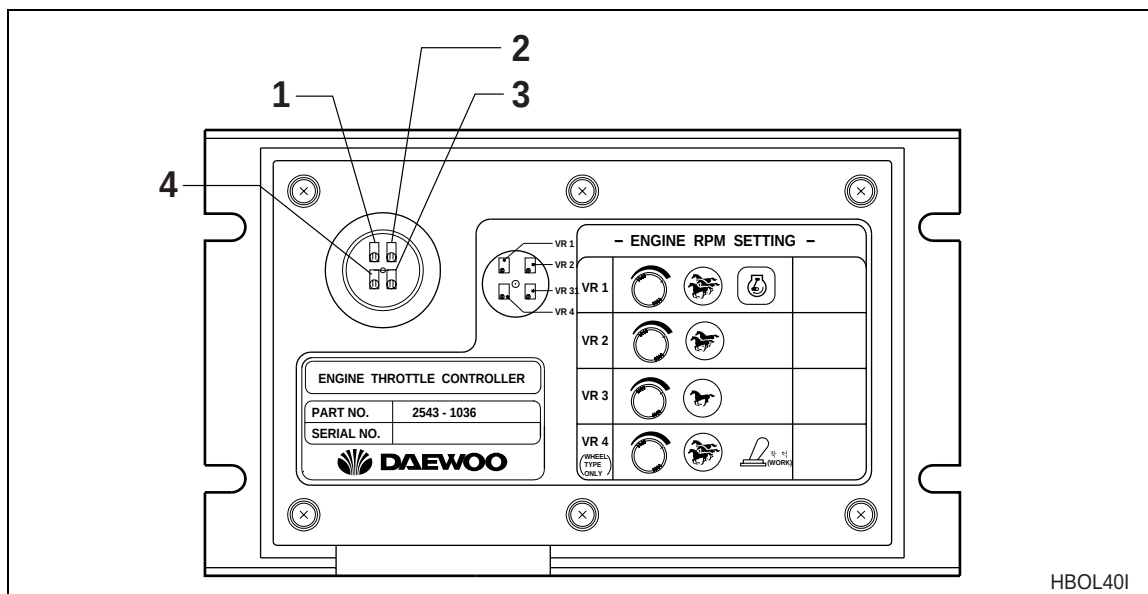
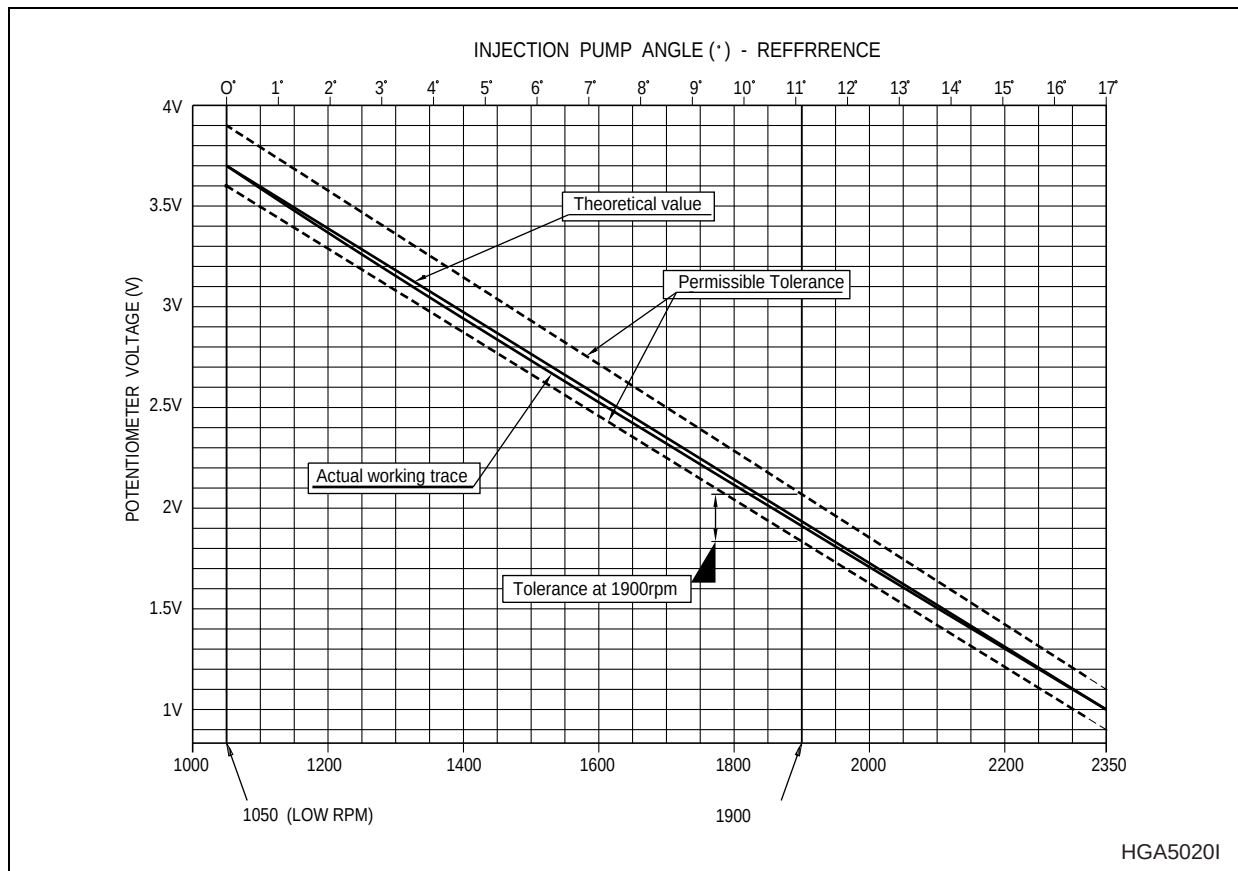

Figure 46
Figure 48
Adjustment of Work Mode RPM (Refer to Figure 46)
- D. With a small screw driver adjust the variable resistor "VR4" shown in Figure 46. Adjust it until the engine is at 1900 ± 50 RPM.
Adjustment of Auto Idle and Other RPM (Refer to Figure 46)
- C. With a small screw driver adjust the variable resistor "VR1" shown in Figure 46. Adjust it until the engine is at 1250 ± 50 RPM.
- C. With a small screw driver adjust the variable resistor "VR2" shown in Figure 46. Adjust it until the engine is at 1750 ± 50 RPM.
- C. With a small screw driver adjust the variable resistor "VR3" shown in Figure 46. Adjust it until the engine is at 1600 ± 50 RPM.
ADJUSTMENT OF TPS (THROTTLE POSITION SENSOR) (REFER TO FIGURE 46 THRU FIGURE 48)
7. Read the engine speed displayed on the gauge panel and find the corresponding TPS voltage on table "Figure 48".